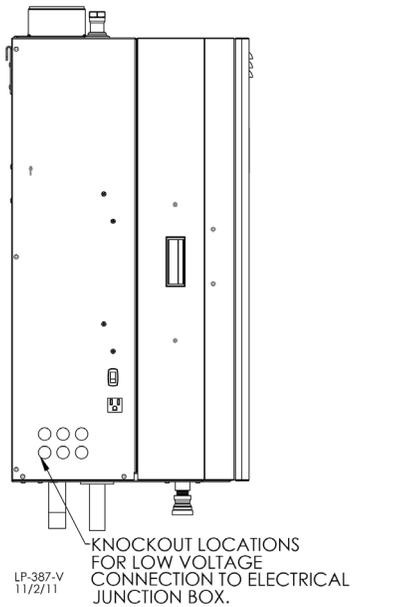

Figure 28 - Knockout Locations
1. All low voltage cables should enter the electrical junction box through the provided knock out holes as shown in Figure 28.